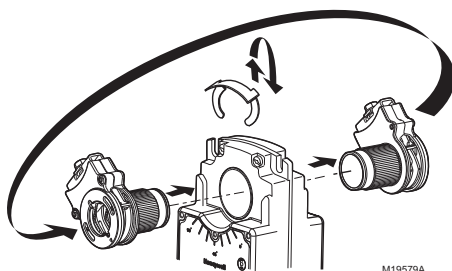

Fig. 20. Mounting shaft coupling to actuator opposite side.
- (1) Reposition reverse/direct acting switch, or
- (2) Remount actuator on the bracket.
- d. Move the actuator coupling to the opposite side of the actuator, as displayed in Figure 20.